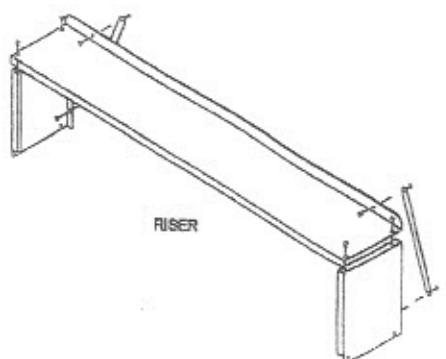

FIG. 8
- Assemble the workbench riser shelf to the top flange of the left and right sides using four (4) 1/4-20x1/2" nuts and bolts.
- Attach braces to the backs of the sides and riser shelf using four (4) 1/4-20x1/2" nuts and bolts. (Figure 8)